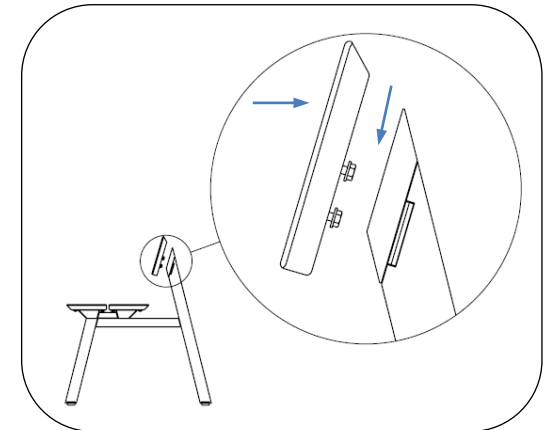

Fig. 6 – attach back board to brace
6. Slide back board with screws installed into keyholes on back cross brace and move down into position. See Fig. 6.